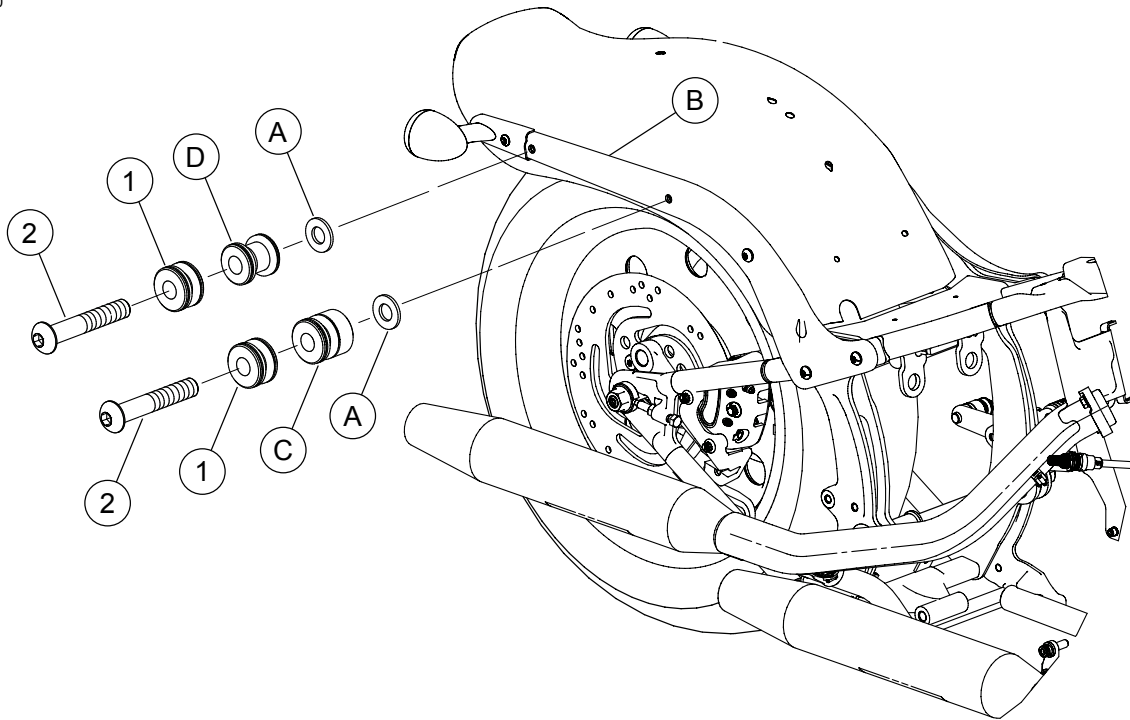

Figure 4. Service Parts: Softail Detachable Saddlebag Docking Hardware Kit
See Figure 4 and Table 1.
3. See Figure 4. Place a bushing (A) into each of the fender support (B) holes. The beveled side of the bushings (Figure 3, Item 1) face out from the fender.